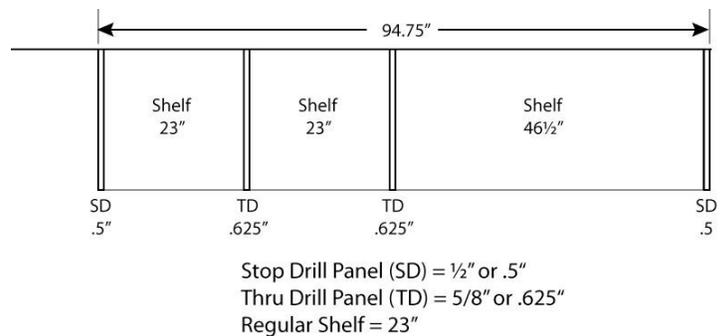

Fig. 4
1. Determine final rail and cover length. Total the measurements of the width of all combined shelves, stop-drilled and through-drilled panels on this wall. (See Fig. 4.)